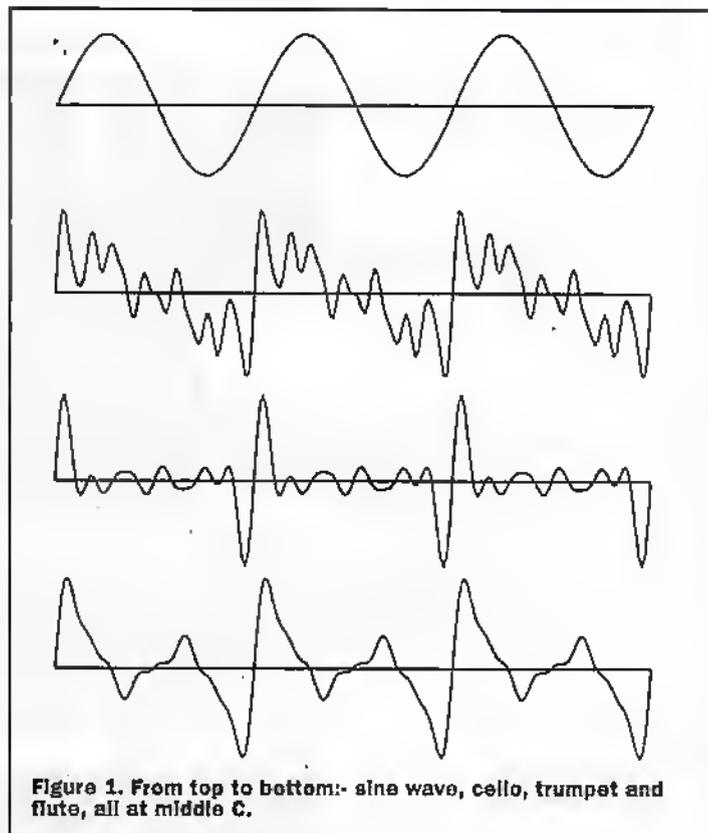

Figure 1. From top to bottom:- sine wave, cello, trumpet and flute, all at middle C.
perceive as more interesting sounds. A sine wave is contrasted with the waveform of a few real musical instruments in the illustration – see Figure 1.
**Figure 4.** Building up the waveform for a cello by adding sine waves. Even after five sine waves, the result is still not identical to that of a real cello. See Figure 1.